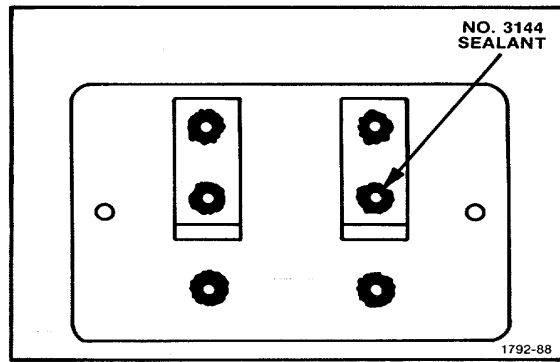

Figure 5-35. Sealing of Battery Pack screwholes
**30. Watertight sealing procedures for the Battery Pack (see Figs. 5-35 and 5-36)**
2. Form a bead of No. 3144 sealant in and around each of the six screw holes in the Panel. See Fig. 5-35.